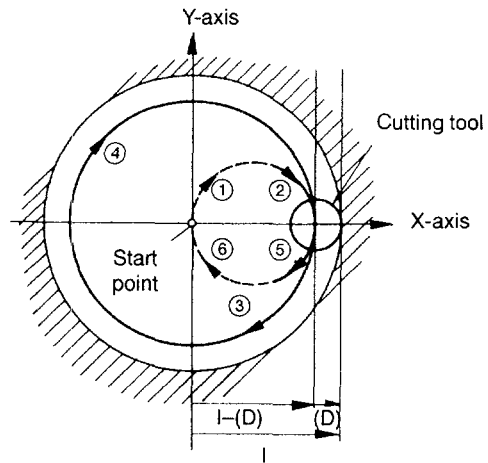
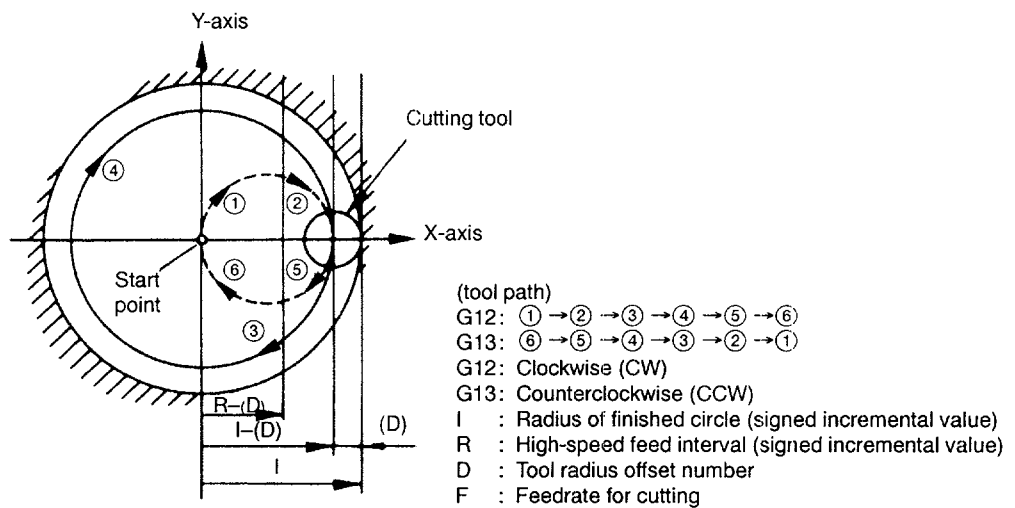

Fig. 4.21 Circle Cutting Commands (G12, G13)
Fig. 4.22 High-Speed Feed Interval Designation by R
By specifying “G12 (or G13) I ··· R ··· D ··· F ··· ;”, circle cutting is executed in the manner shown in Fig. 4.21. The interval in which a cutting tool is moved at a high speed can be specified by R. In Fig. 4.22, the intervals ① and ⑥ indicate the high-speed feed intervals.